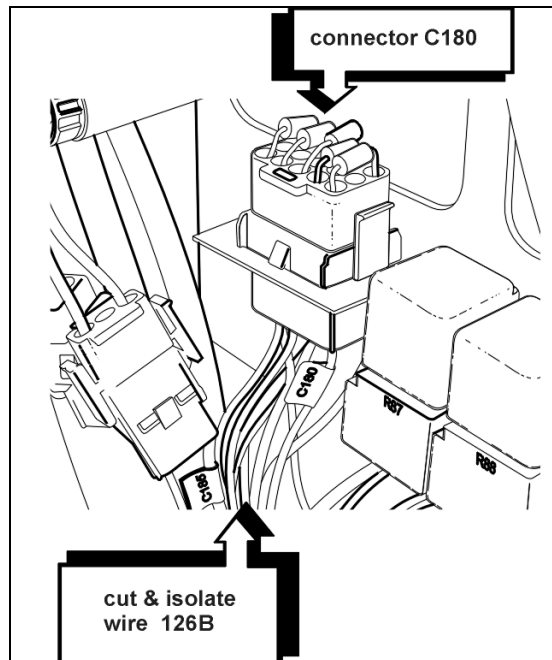

FIGURE 3 : IDENTIFICATION OF CONNECTOR C180
2. Locate connector C180 identified with a tag (figure 3).
3. Cut and isolate the wire identified 126B of the diode D82. This wire is connected to pin #10 of connector C180 (figure 3).